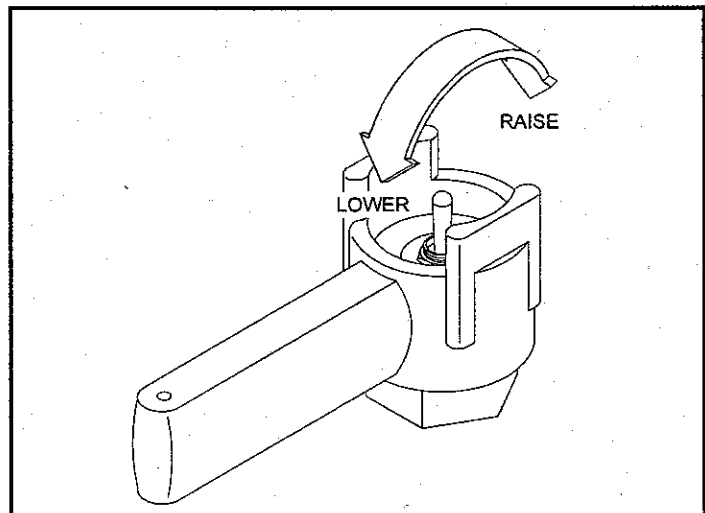

Figure 4 - Toggle Switch
5. The lift will either be supplied with a hand-toggle switch or a foot switch. See Figure 4 for proper operation of the hand toggle switch. The foot switch will have two separate foot pedals with labels indicating which pedal to press to raise or lower the platform.
3. Press the toggle switch upward (see Figure 4) or depress the foot pedal marked "RAISE" and raise the platform to a convenient working height. **CONTINUOUSLY WATCH** the condition of the load as the platform is raised. If the load appears to be shifting, **STOP**, lower the platform and adjust the load.
2. Press the toggle switch downward (see Figure 4) or depress the foot pedal marked "LOWER". **CONTINUOUSLY WATCH** the condition of the load as the platform is lowered. If the load appears to be shifting, **STOP** and adjust the load.